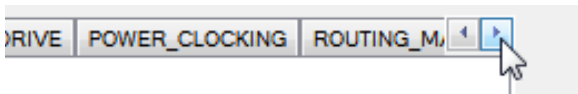
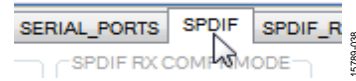

Figure 37. Using the Register Tab Scroll Button
Figure 38. Selecting the SPDIF Tab
- b. To access the **SPDIF** tab, click the right arrow to scroll (see Figure 37). Then, click the **SPDIF** tab (see Figure 38). There are several register control tabs listed across the top of the window.